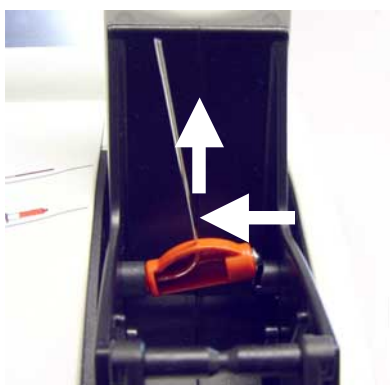

Fig. 3-29 Needle
5. Push the needle to the left, then upwards and take it out (see Fig. 3-29).
2. Push the needle to the left, then upwards and take it out (see Fig. 3-29).